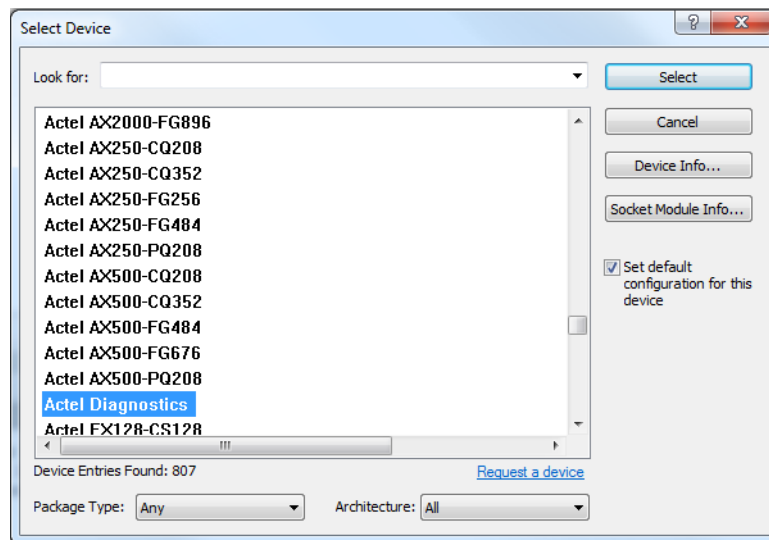

Figure 3: Select Device Dialog Box
6. Click **Device** to open the **Select Device** window, as shown in Figure 3. Alternatively, the Diagnostics can be accessed from the **Tools** menu by selecting **Programmer Diagnostics**.